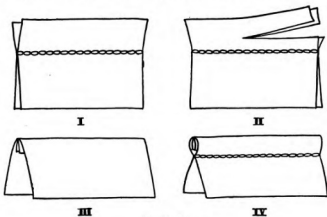

FIGURE 76
*French Seam* (Figure 76). — This seam is made by sewing two plain seams so that the raw edges are concealed within.